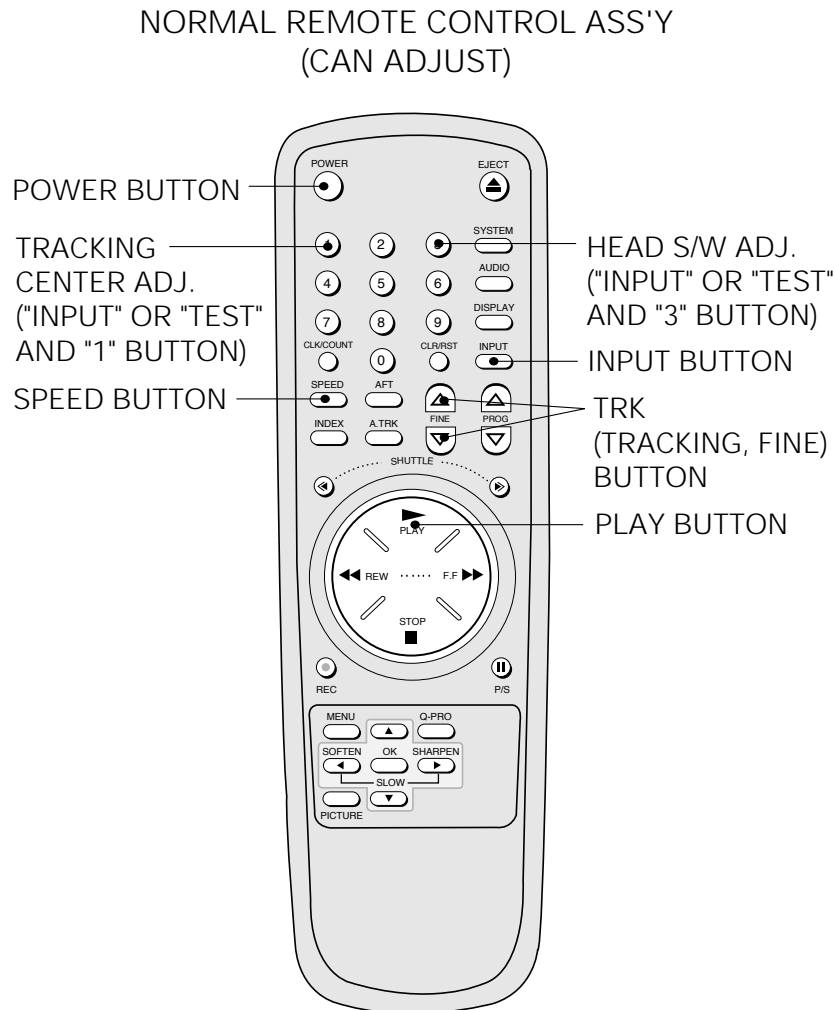

Fig. 5-1 Remote Control Ass'y Jig for X-7/X-8 Chassis
1. Normal remote control ass'y for X-7/X-8 (DX7-R/DX7-RC/DX8-RC) CHASSIS. (SEE FIG 5-1)
1. Disattach the inlay of remote control ass'y. (See Fig. 5-1 and Fig. 5-2)
2. Press the "TEST" button with the pincers and the precise driver as shown in Fig. 5-1 and 5-2)
(See Fig. 5-1 and Fig. 5-2)